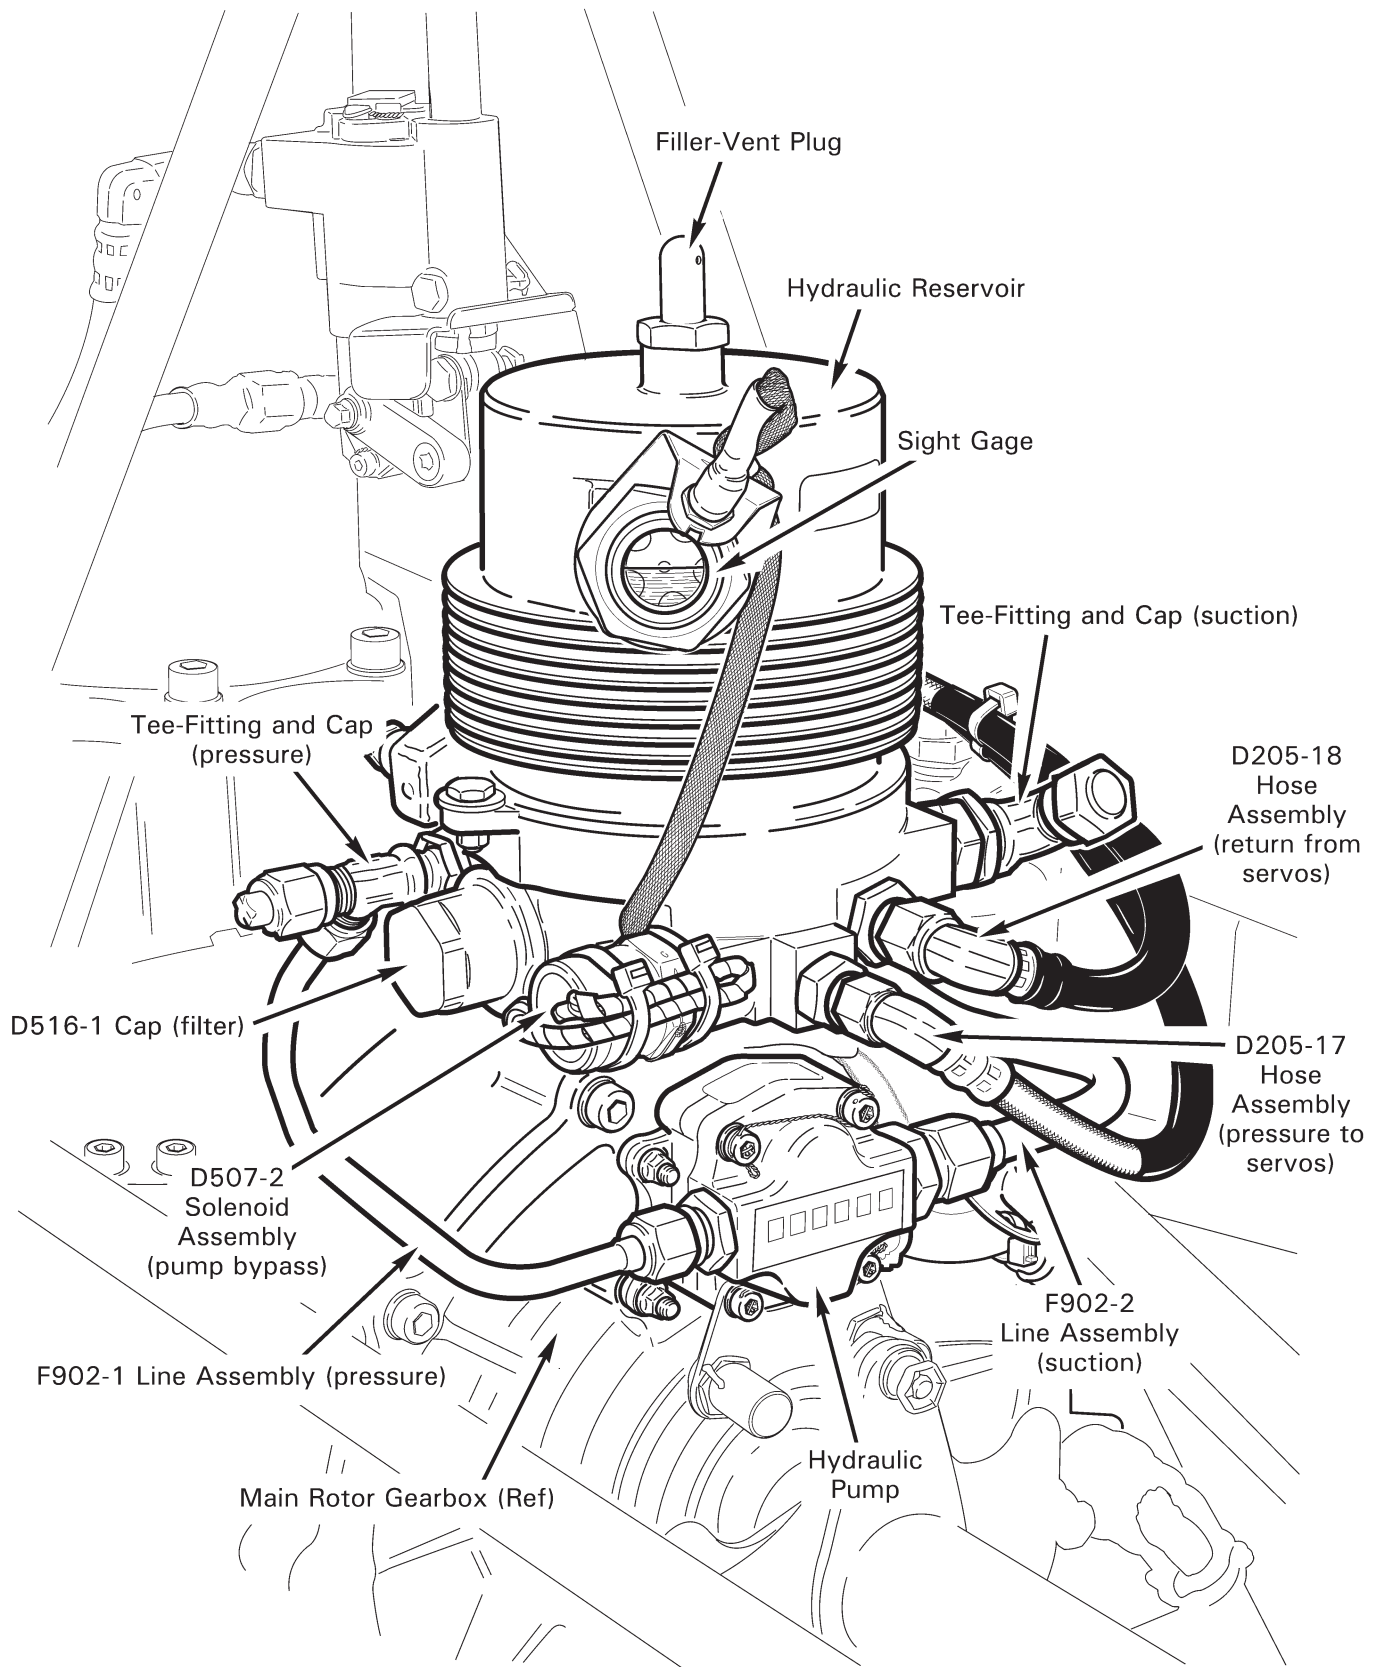

FIGURE 12-4 HYDRAULIC SYSTEM
1. Refer to Figure 12-4. Remove filler-vent plug. With system filled and bled, fill hydraulic reservoir to center of sight glass with new A257-15 fluid.
1. Refer to Figure 12-4. Remove D516-1 cap and filter and visually inspect element for contaminants. If element is clear, proceed to step 2. If metal contamination is found, use a magnet to determine if metal is ferrous. If metal is ferrous, perform the following:
1. Refer to Figure 12-4. Remove filler-vent plug. Place a suitable drain container under F902-1 (pressure) and F902-2 (suction) line assembly T-fittings, and remove caps. Pour small amount of new A257-15 fluid into hydraulic reservoir to purge suction line. Pressure line will drain in following step, when D516-1 cap is removed.